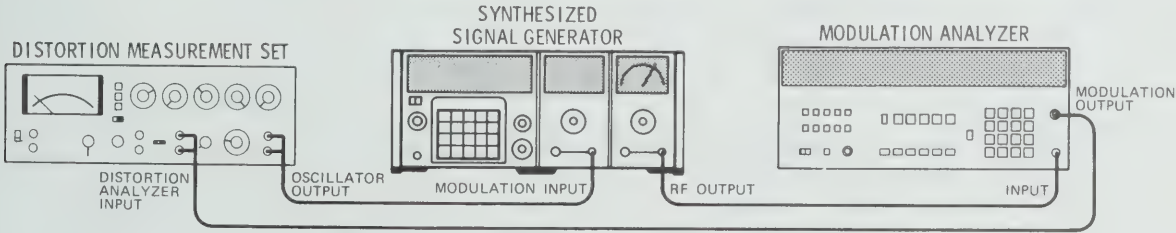

Figure 4-13. Frequency Modulation Test Setup
1. Connect equipment as shown in Figure 4-13.